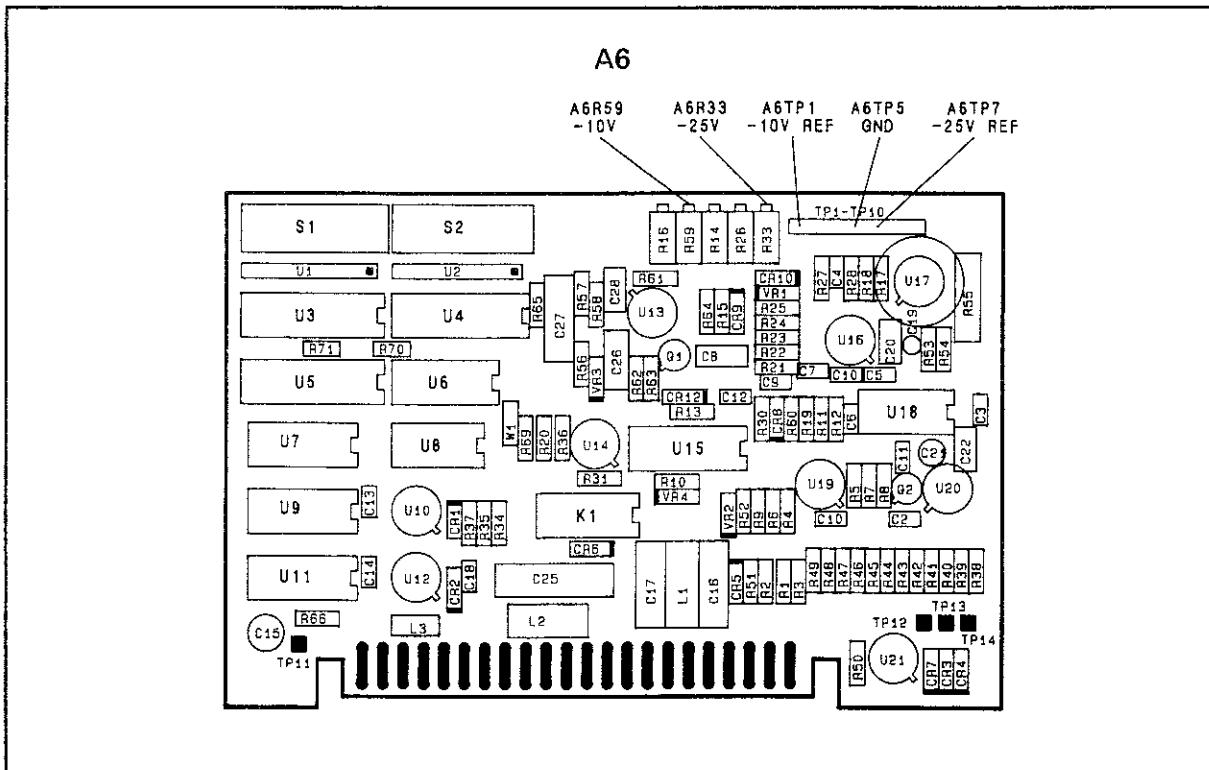

Figure 5-2. -25V and -10V Reference Points and Adjustments
1. Connect the DVM to A6TP7 (Figure 5-2). Connect ground to A6TP5.